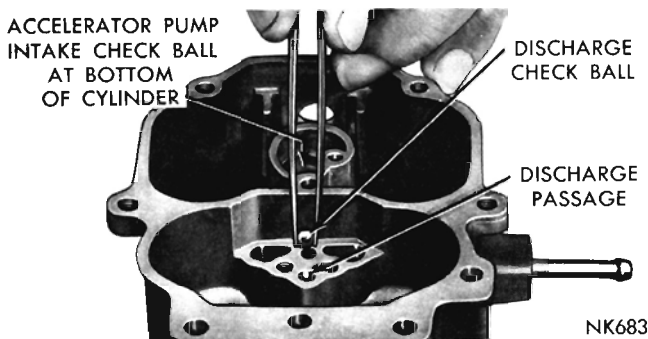

Fig. 7—Installing Accelerator Pump Discharge Check Ball
(1) Invert the main body and place the insulator in position, then place the throttle body on main body and align. Install screws and tighten securely.
(2) Install the accelerator pump discharge check ball (⁵/₃₂ inch diameter) in the discharge passage, as shown in (Fig. 7). Drop the accelerator pump intake check ball (³/₁₆ inch diameter) into the bottom of the pump cylinder.